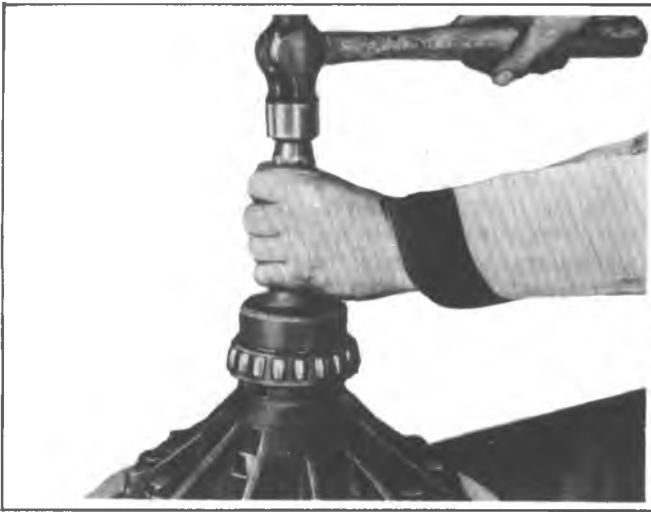

Fig. 8G--Differential Bearing Installation
3. Place new bearing on hub with thick side of inner race toward case and install bearing using J-1488 as shown in figure 8G.